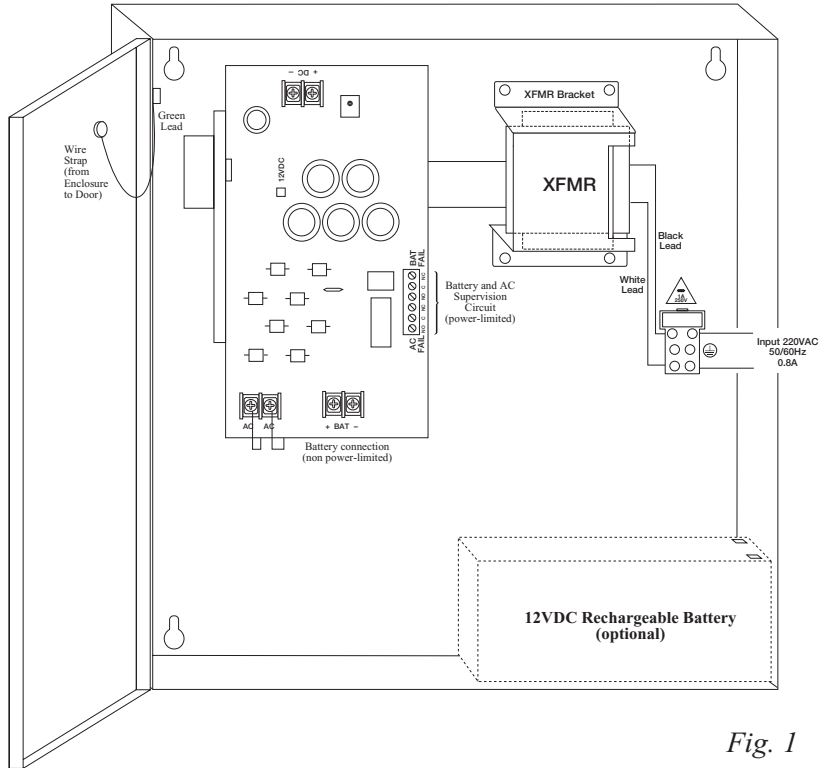

Fig. 1
4. Connect devices to be powered to the terminals marked [+ DC -] (Fig. 1).
5. Connect battery to the terminals marked [+ BAT -] on the unit (battery leads included) (Fig. 1).